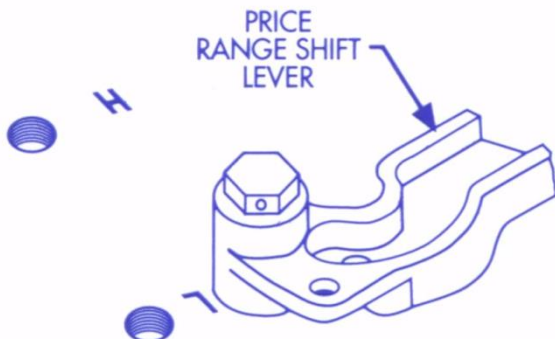

FIGURE 3
- 3) Set price range shift lever in the "L" or "1/10" position (see Figure 3).
- 3) Set price range shift lever position to the "L" or "1/10" position (see Figure 3).
- 3) Set price range shift lever clockwise in the "H" position or "1" position (see Figure 3).